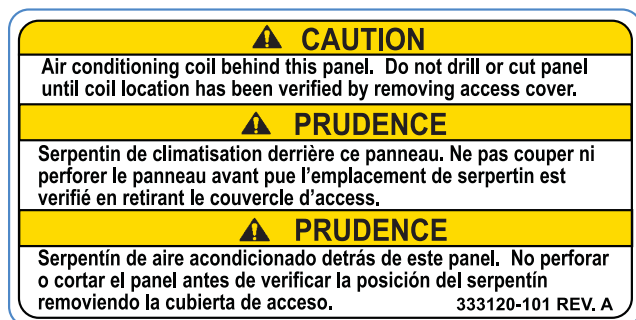

Fig. 7 - Plenum Caution Label
6. Affix caution label to the right side of plenum enclosure. See Fig. 7. The caution label is included with the Installation Instructions.
2. The models marked with an * in Table 1 are shipped with a Caution Label to be applied to plenum to indicate slab location. See Fig. 7. When these coils are removed from their casing and applied directly into the plenum, affix this Caution Label to the right side of the plenum enclosure. This is needed only in cases where the humidifier is not installed with original equipment. Label will alert future service and installation technicians about coil slab location.